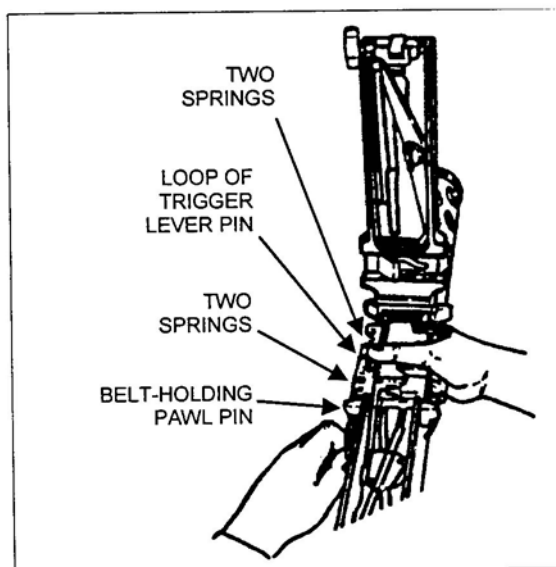

Figure 21. Removal of the belt holding pawl pin, assembly, and springs.
- (2) Press down on belt holding pawl assembly to prevent loss of springs, and remove the belt holding pawl pin. Remove belt holding pawl assembly and springs (Figure 21).